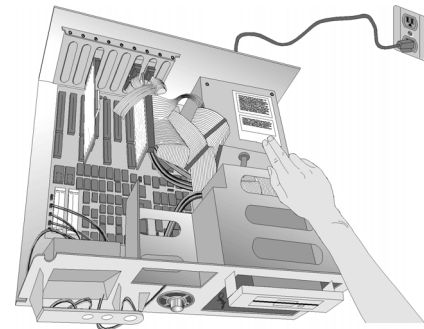

FIGURE 3.12
- ◆ Because computers and peripheral systems may contain a number of static-sensitive devices, before touching any components inside the system, touch an exposed part of the chassis or the power-supply housing with your finger, as illustrated in Figure 3.12. Grounding yourself in this manner ensures that any static charge present on your body is removed. Use this technique before handling a circuit board or component. Of course, be aware that this technique works safely only if the power cord is attached to a grounded power outlet. The ground plug on a standard power cord is the best tool for overcoming ESD problems.